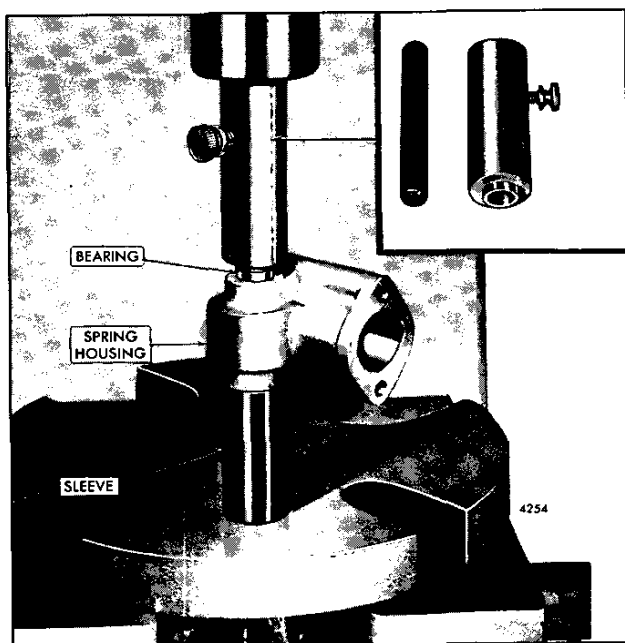

Fig. 15 – Installing Speed Control Shaft Bearing in Spring Housing Using Tool J 9196
- c. Place the pilot rod end of the bearing installer assembly in the bearing. Support the spring housing, bearing and installer on a short sleeve on the bed of an arbor press as shown in Fig. 15, then press the bearing in the housing until the shoulder on the installer contacts the housing.
- j. Remove the bearing pilot rod J 9196-2 from the installer body J 9196-1 and place the installer body over the end of the shaft and against the bearing. Support the spring housing, bearings and installer on a short sleeve on the bed of an arbor press as shown in Fig. 15, then press the bearing in the housing until the shoulder on the installer contacts the housing.